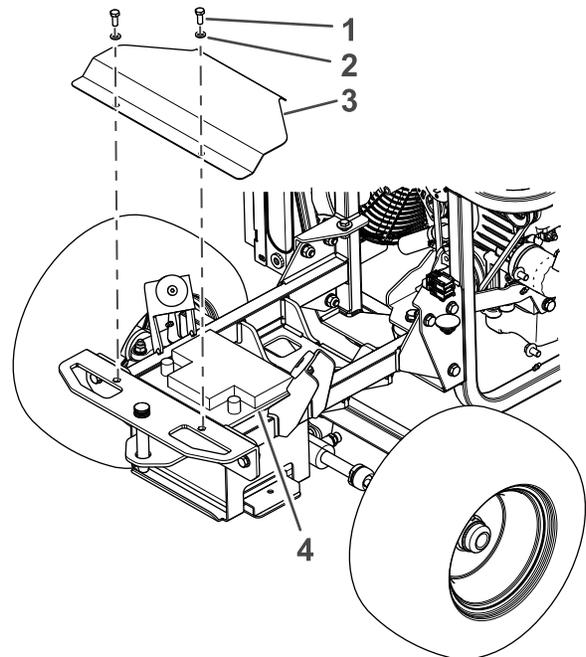

Figure 62
5. Remove the 2 bolts and washers from the battery cover (Figure 62).
6. Remove the battery cover (Figure 62).